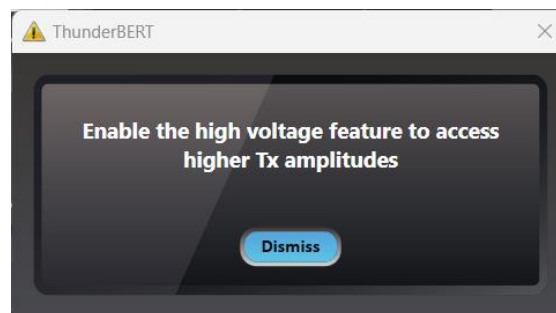

Figure 18: High Amplitude Warning
- Specify the TX amplitude.** In optimal mode, the slider shows the calibrated differential peak to peak amplitude range, each displayed value is the combination of the optimal FFE taps. Pre-Emphasis, Main, and Post-Emphasis taps are calculated during calibration. The ML4079EN is characterized by its high amplitude swing: at low rates the amplitude swing can go up to 1.8Vpp as for the high rates it is up to 1.2Vpp. Should the amplitude exceed the 1V threshold, a warning message will be displayed, advising you to enable the High Voltage feature (Figure 18). This warning message is specifically designed to appear to help prevent potential damage to the receiver side (RX), ensuring the integrity and longevity of the system components.